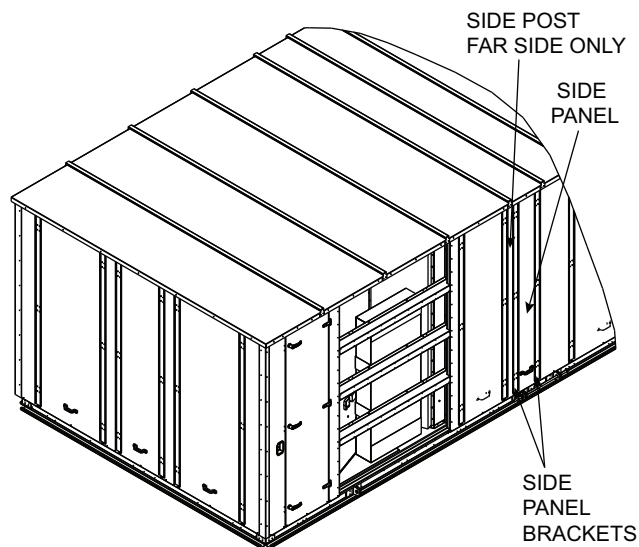

Fig. 48 — Side Post and Panel Installation
17. Install side post on far side of unit. See Fig. 48.
18. Install side panels at main unit section/return section split. Install panel side brackets, 2 on each panel. See Fig. 48.